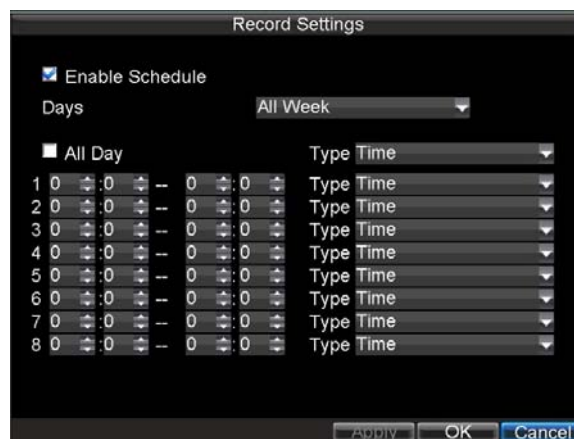

Figure 11. Edit Schedule Settings
- 4) Click the Edit button. This will open up a new recording schedule, shown in Figure 11.